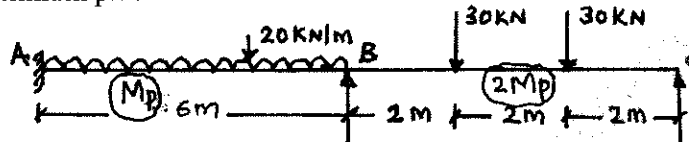

Fig.Q2(b)
- b. Analyse the continuous beam ABC subjected to working loads shown in Fig.Q2(b) and determine the maximum plastic moment. Take load factor of 1.85. (08 Marks)